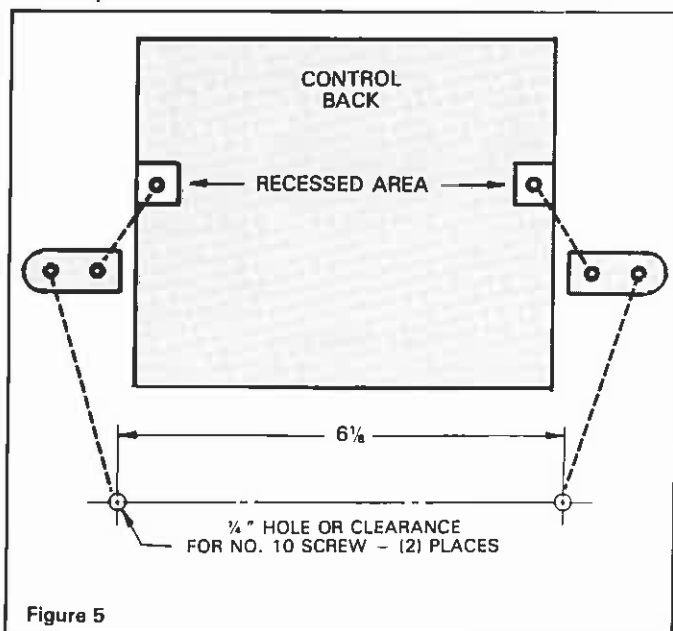

Figure 5
1. BCT-800 or 802 model (See Figure 5). Attach the two (2) mounting tabs found in separate package to recessed areas on back side of enclosure using the two (2) self-tapping flat head screws. Using two (2) #10 screws with nuts, mount the control to the surface or panel.